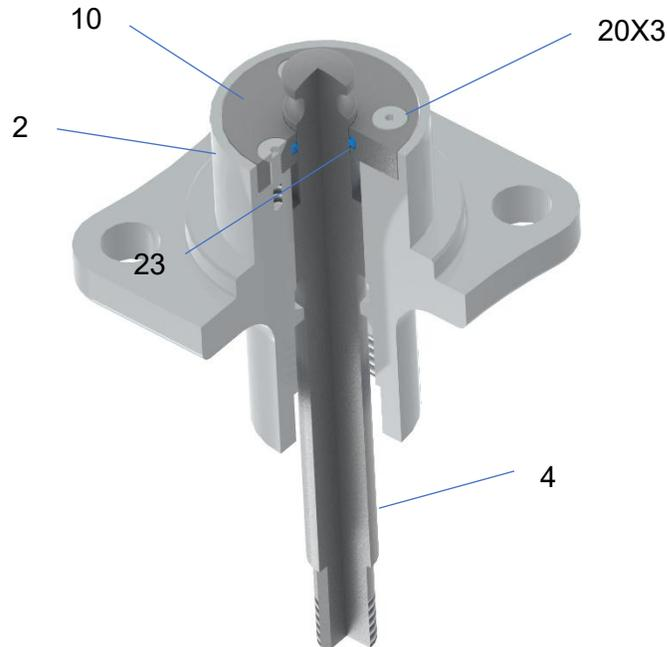

Figure 9
- 11.8. Place the wiper/o-ring assembly (10 & 23) over the stem (4) and into bonnet (2) as shown in Figure 9 with the countersinks in the wiper (10) facing upward.